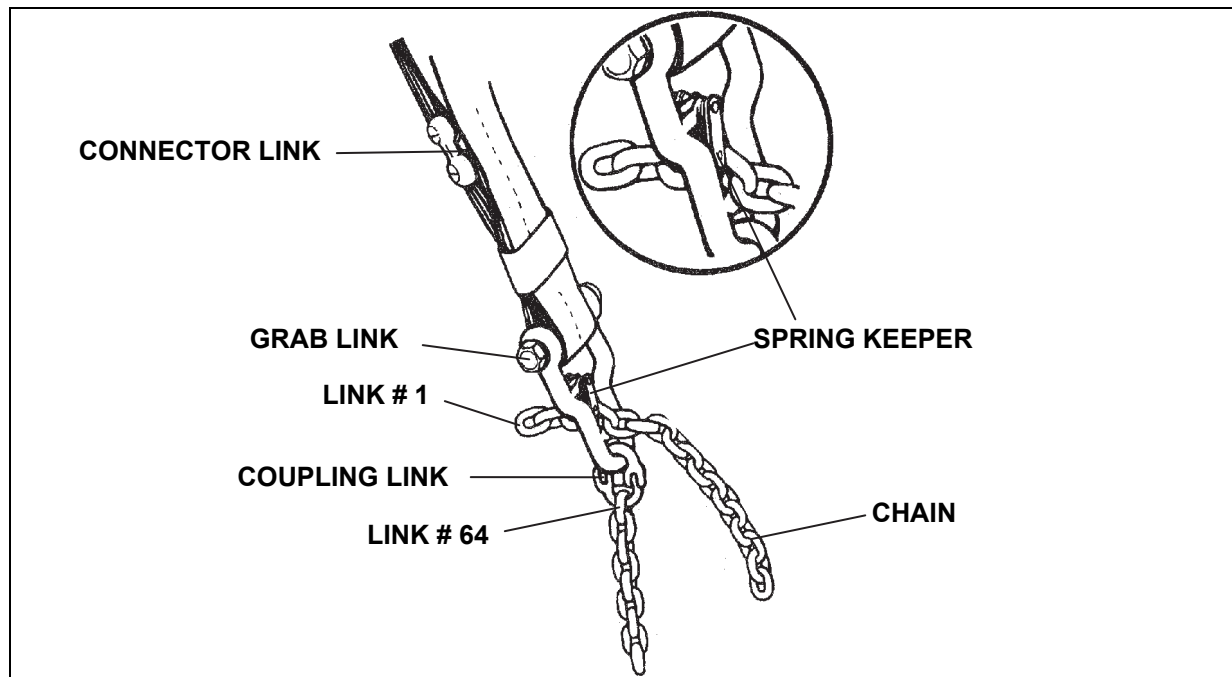

Figure 6-25. Grab Link with Spring Keeper
- Grab Link Assembly.** The next item on the sling set, the metal grab link, is attached to the lower end of the nylon web sling leg. This grab link is equipped with a spring-loaded keeper as shown in the inset of figure 6-25. At the lower end of the grab link you will see the coupling link that is used to connect the chain leg to the grab link.